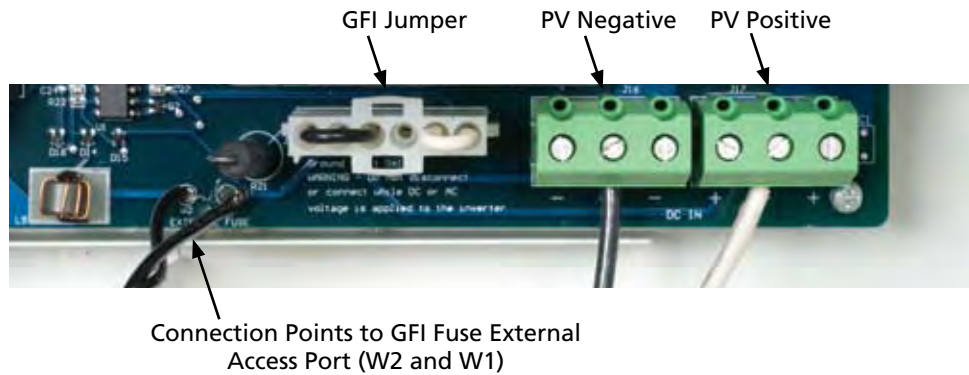

Figure 3-11 Power Board Connections
To wire the DC inputs from the PV array to the inverter/disconnect system, refer to Figure 3-11.
Do not connect or disconnect the GFI jumper shown in Figure 3-11 while the inverter is supplied with DC or AC power.
9. Install the GFI jumper with the white wire on the right, into connector J3 on the power board inside the inverter. Refer to Figure 3-11.
14. Measure the DC voltage potential across the GFI fuse extension points, W1 and W2, inside the inverter. Verify it is less than 25 volts DC, either positive or negative. Refer to Figure 3-11.